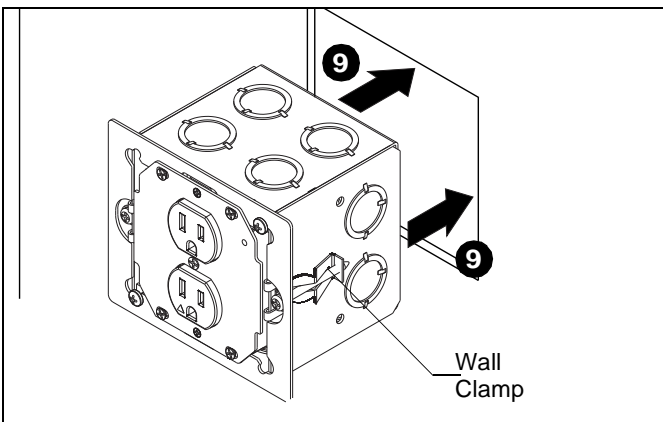

Figure 6
- Insert EGX-SF2 housing into drywall opening. (See Figure 6)